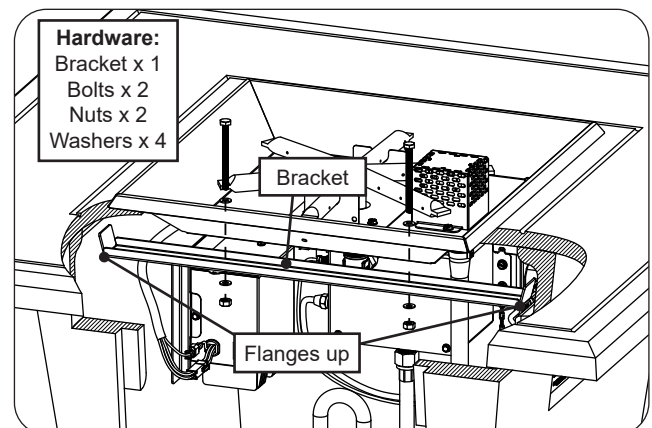

Fig. 36-4 Install bracket
7. Locate the supplied support bracket and install as shown in Fig. 36-4. The bracket must be inserted into the enclosure through the door opening, aligned with the holes found on the burner pan, and fastened with a $\frac{1}{2}$ " wrench and the supplied bolts (2), nuts (2), and washers (4).